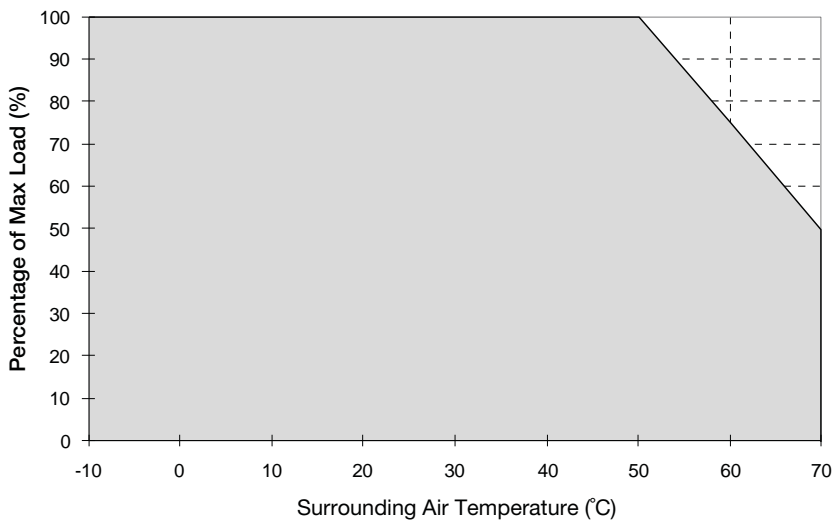

Fig. 1.1 De-rating for Vertical and Horizontal Mounting Orientation
1. Power supply components may degrade, or be damaged, when the power supply is continuously used outside the shaded region, refer to the graph shown in Fig. 1.1.